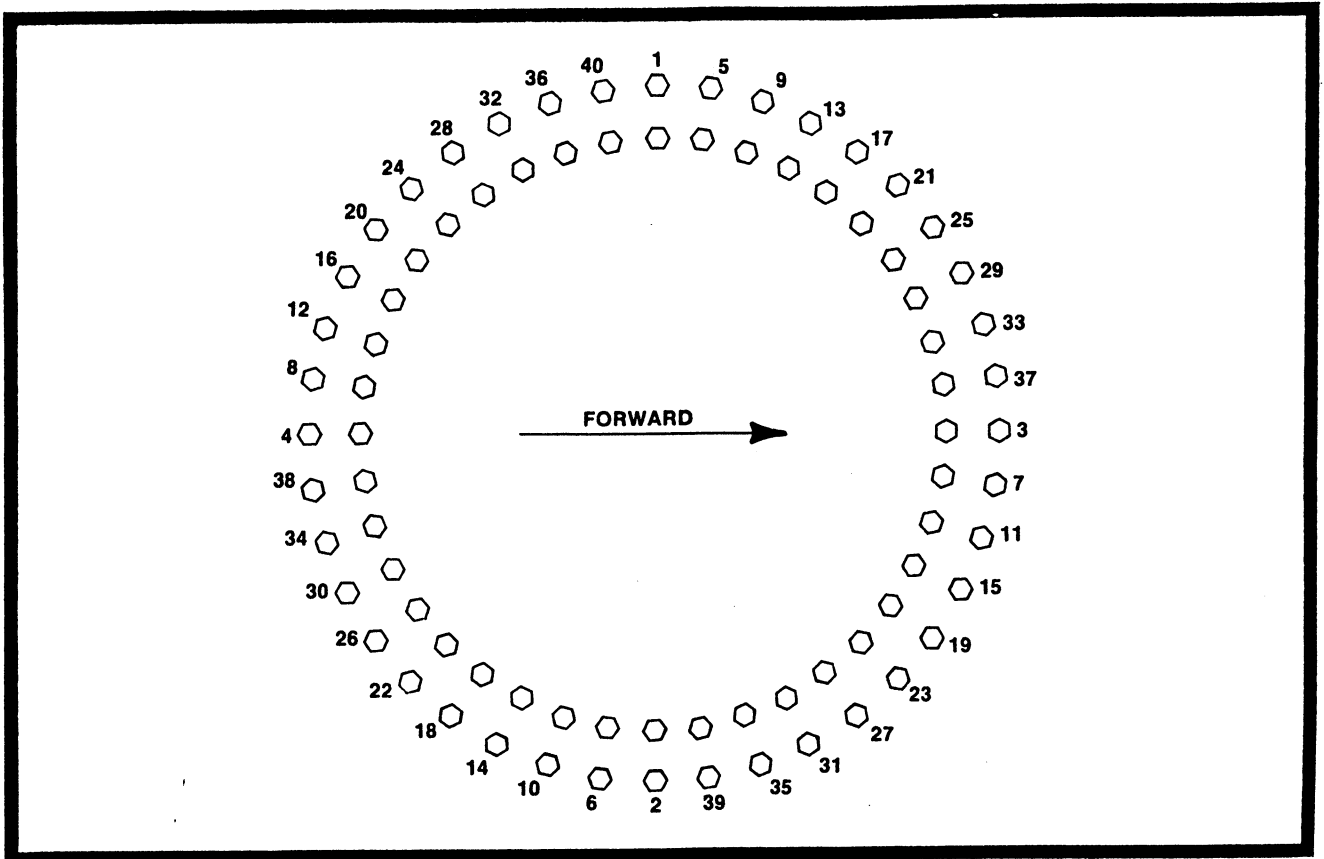

Figure 2-13. Swing Bearing Torquing Sequence.
- (p). Following the Torque Sequence diagram shown in Figure 2-13, tighten the bolts to an initial torque of 127.5 foot pounds (17.72 Kgm). Then following the same sequence tighten the bolts to a final torque of 170 foot pounds (23.63 Kgm).
- (u). Following the Torque Sequence diagram shown in Figure 2-13, tighten the bolts to an initial torque of 127.5 foot pounds (17.72 Kgm). Then following the same sequence tighten the bolts to a final torque of 170 foot pounds (23.63 Kgm).
- (1). Outer Race - 170 FT LB (23.63 Kgm) Wet, 220 FT LB (30.58 Kgm) Dry.
- (2). Inner Race - 170 FT LB (23.63 Kgm) Wet, 220 FT LB (30.58 Kgm) Dry.
- (3). Swing Bearing Torquing Sequence, see Figure 2-13.